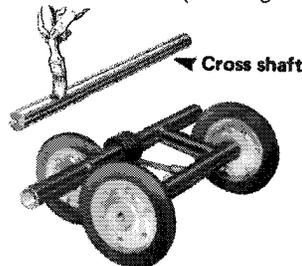

Fig. 21
4. Spray bogie wheel springs with Ski-Doo* metal protector. If unavailable, wipe with cloth or rag soaked in oil. Check condition of shaft and replace if bent or worn. Apply a coat of low temp. grease on cross shaft. (See Fig. 21).